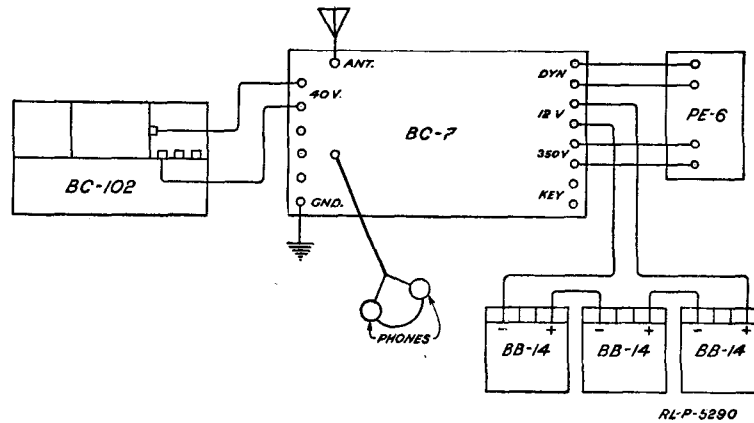

Fig. 92.—Cording diagram of complete transmitter and receiver connections in the SCR-130 set.
d. Connect the high voltage dynamotor leads (with the proper polarity) to the binding posts marked "+ 350" and "- 350." (See Fig. 92.)